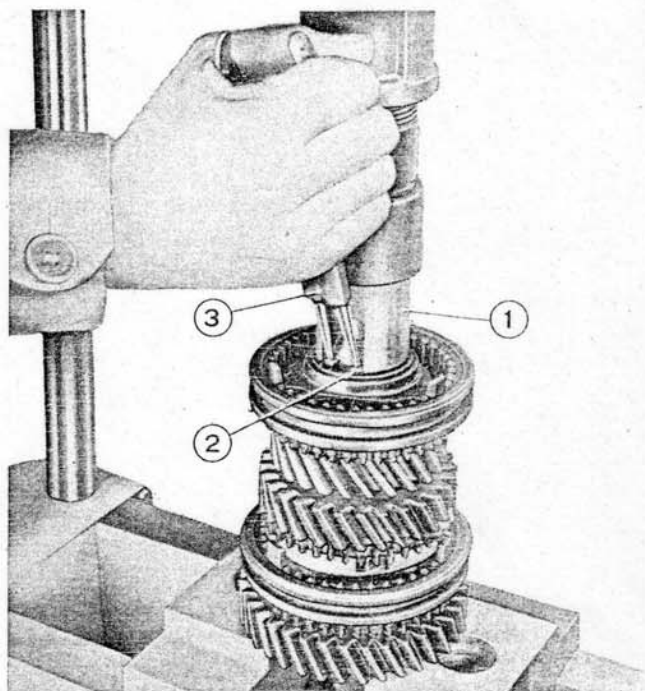

Fig. 59. - Disassembling the mainshaft gear cluster.
Position the mainshaft on an arbor press as shown in fig. 59.
Fit the pressure item (adapter) A. 47033 (1, fig. 59) and, using pliers A. 81101, spread out the snap ring (2).